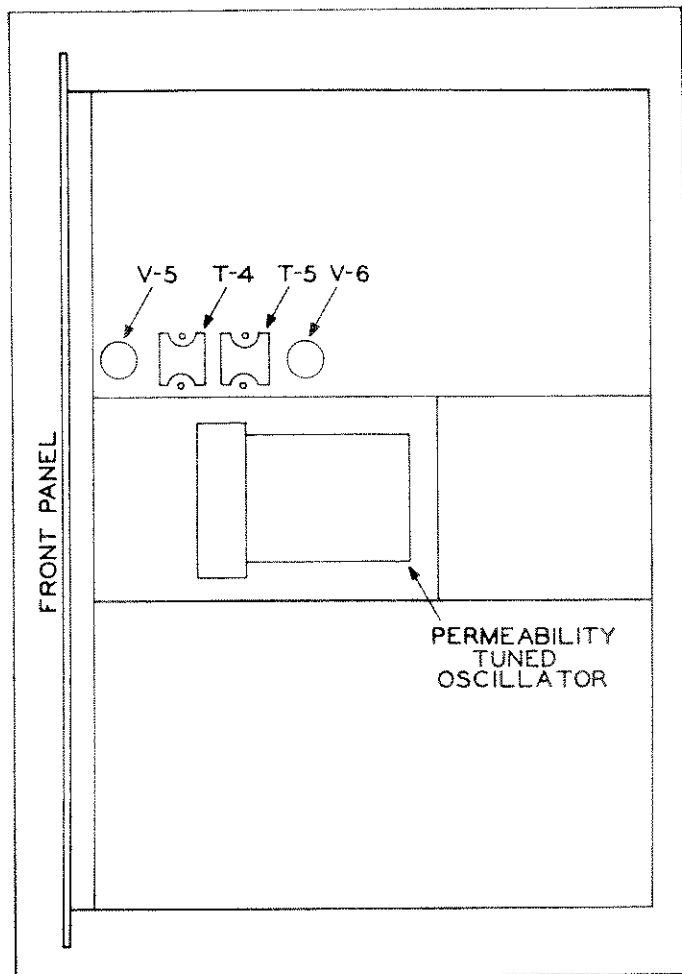

Figure 1. Locations of T-4 and T-5 in the 75A-2 Receiver (Bottom View)
3. Refer to figure 1 to locate i. f. transformers T-4 and T-5.